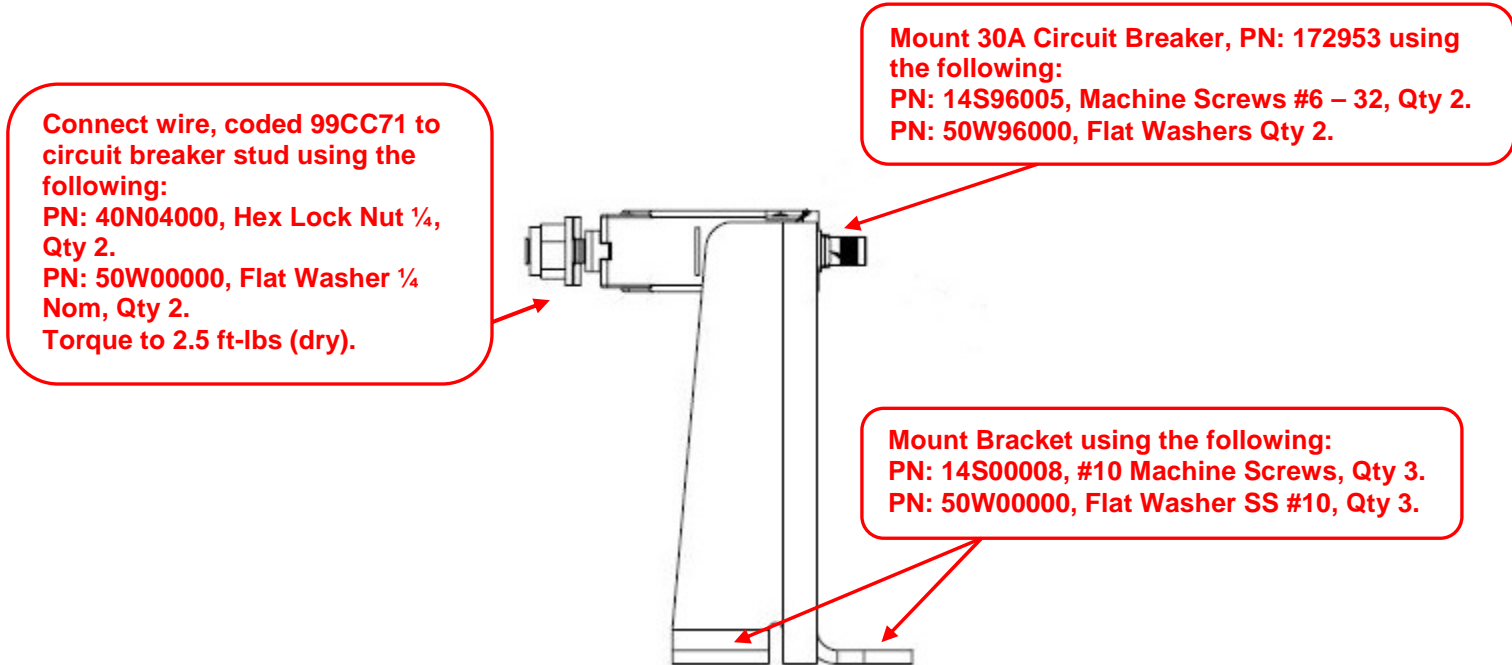

FIGURE 3. 30A Long Delay Circuit Breaker Mount, PN: 471028.
5. Mount the bracket to rear panel using three #10 machine screws, PN: 14S00008 and three flat washers, PN: 50W00000. See Figure 3.
6. Mount the 30A long delay circuit breaker, PN: 172953 to the bracket using two #6 – 32 machine screws, PN: 14S96005 and two flat washers, PN: 50W96000. See Figure 3. Apply decal, PN: 530218 using adhesive spray 77, PN: 170962. Trim to finished size.